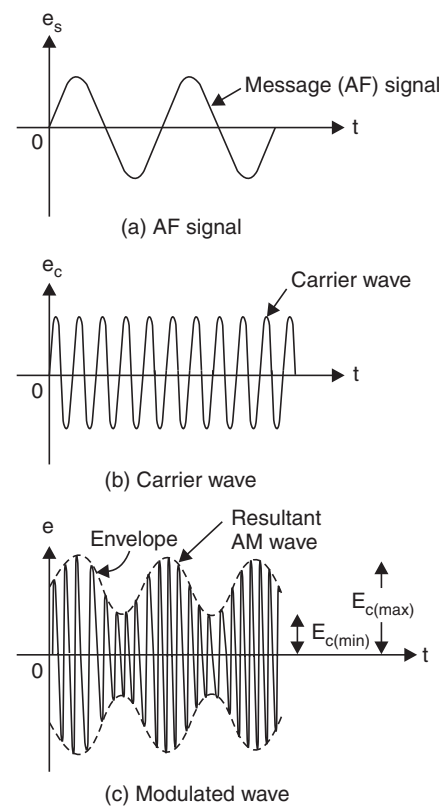

Fig. 3. Amplitude modulation.
The process of amplitude modulation is shown graphically in Fig. 3.
— For the sake of simplicity, the AF/message signal has been assumed sinusoidal [Fig. 3 (a)].
- The carrier wave by which it is desired to transmit the AF signal is shown in [Fig. 3 (b)].
- The resultant wave called *modulated wave* is shown in [Fig. 3 (c)].